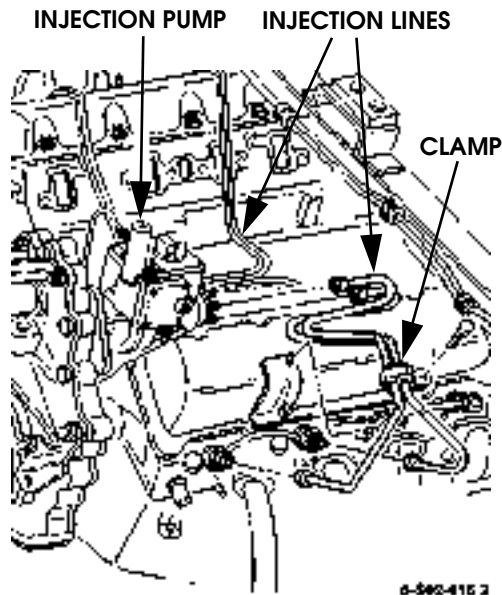

Figure 2-75: Fuel Injection Line Removal
1. Disconnect lines at injector nozzles (Figure 2-75).